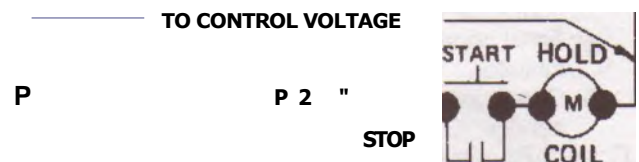

FIGURE 1
- A. Motors with this type of "Overheat Protective Device" have protector leads brought out in the motor conduit box marked "P1" and "P2". These leads are intended for connection in series with the stop button of the 3-wire pilot circuit for the magnetic starter which controls the motor. See Figure 1.